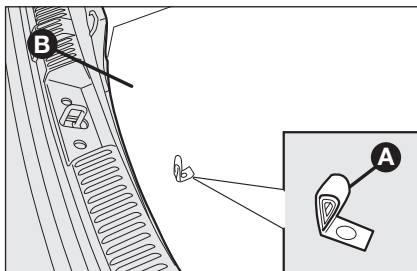
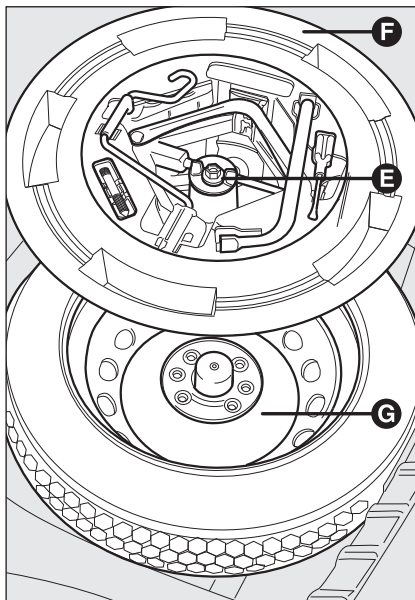

fig. 2
fig. 3
- use the handle **A**-fig. 2 to remove the piece of stiff cover **B**; loosen the clamping device **E**-fig. 3;
- for versions with small spare wheel, unscrew the retaining device **E**-fig. 3, take the tool kit **F**, place near to the wheel to be replaced and then take the small spare wheel **G**;